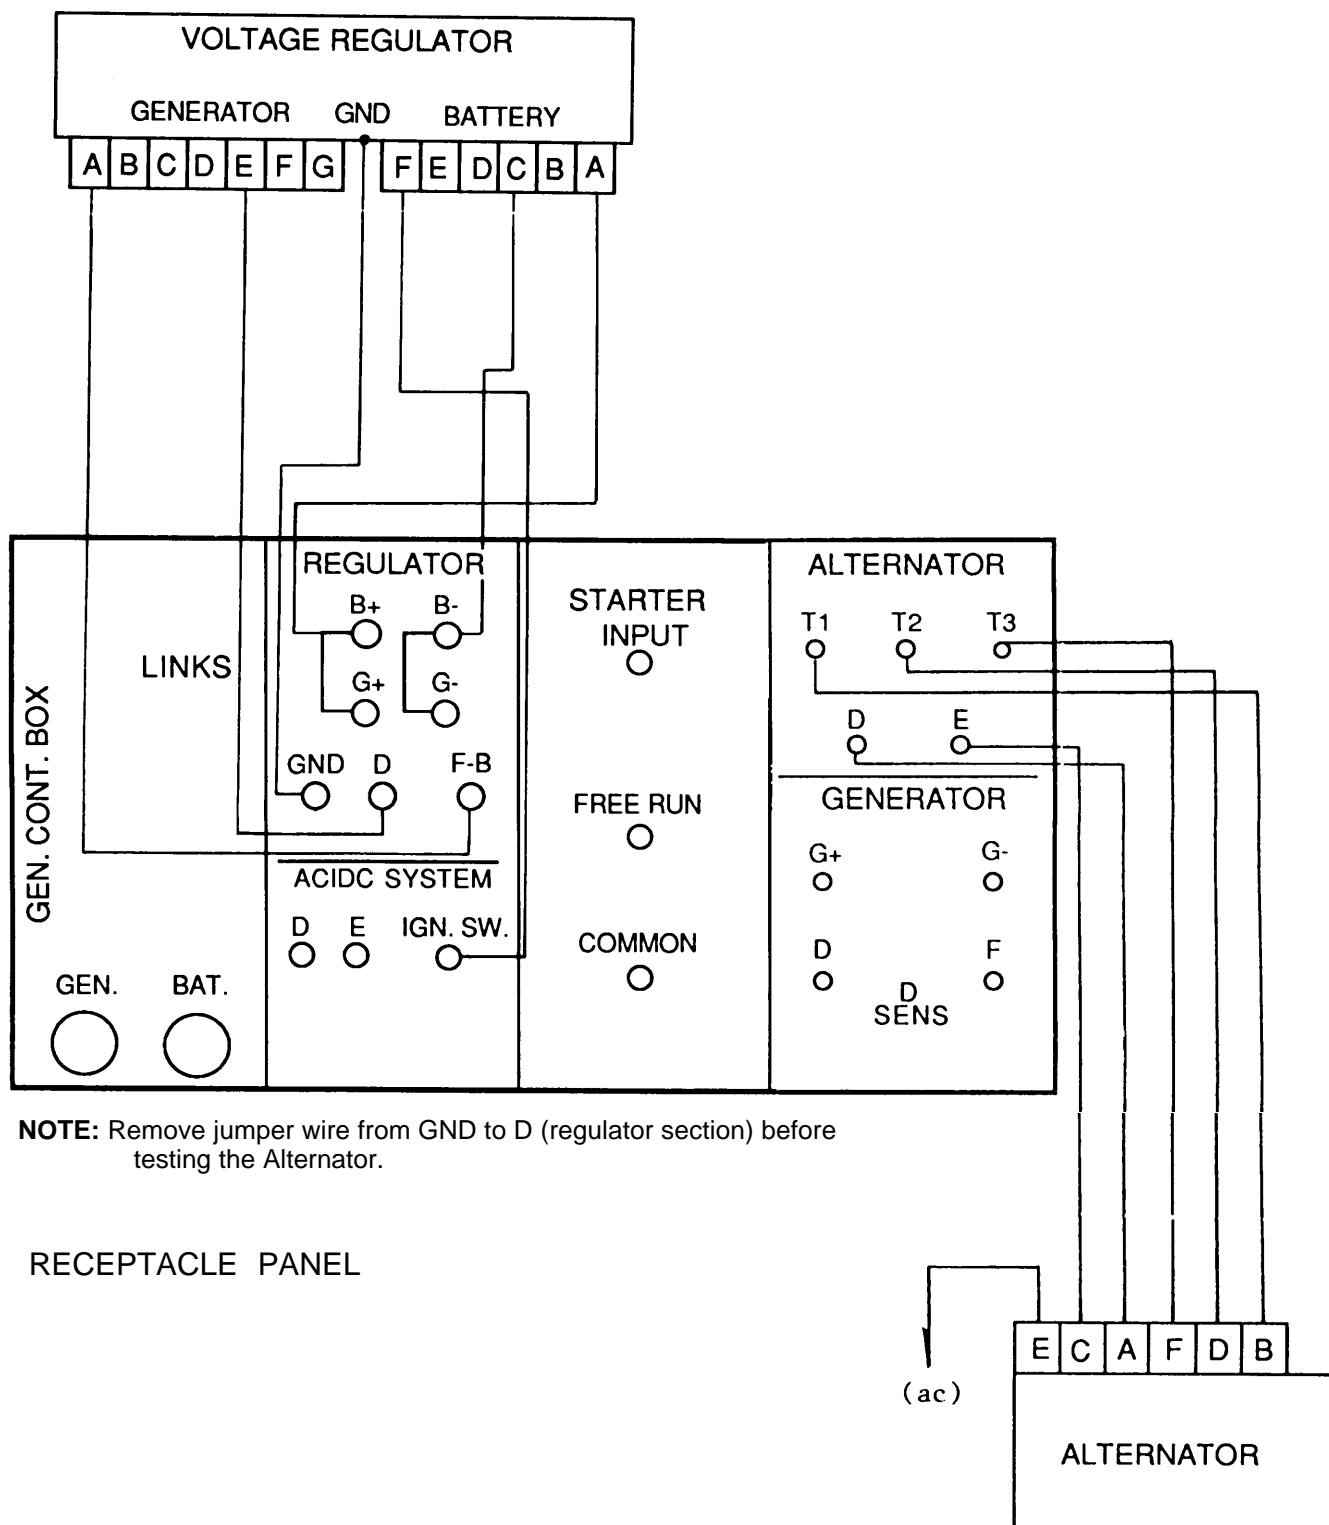

FIGURE D-4. 180-ALTERNATOR OUTPUT TEST WITH REGULATOR
Refer to TM 9-4910-663-12 for test stand general preparation and operation procedures. Use the following information for testing procedures specific to the 180 ampere Alternator (ref Figure D-4).
- 1 Wire the Alternator and rectifier to the test stand as follows (see Figure D-4):
- E Connect the regulator to the test stand as shown in Figure D-4.